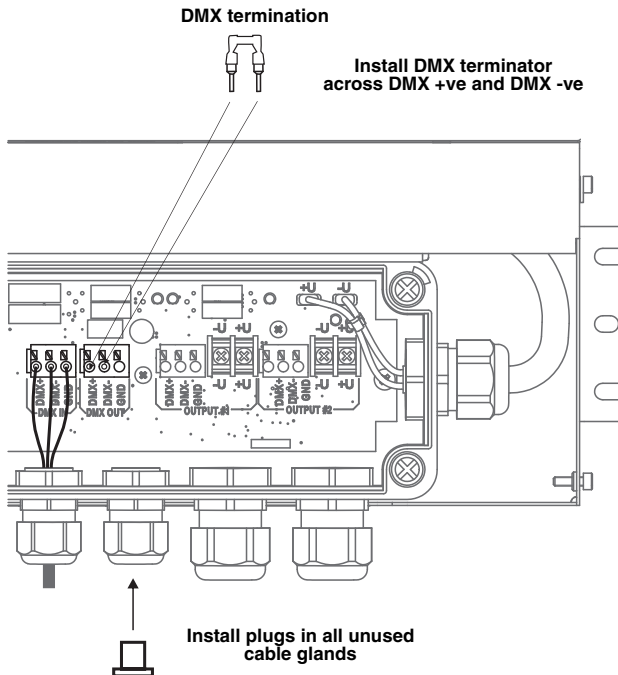

Figure 13: DMX termination in last PSU on link
6. If you are not continuing the data link from the PSU to another PSU, see Figure 13: